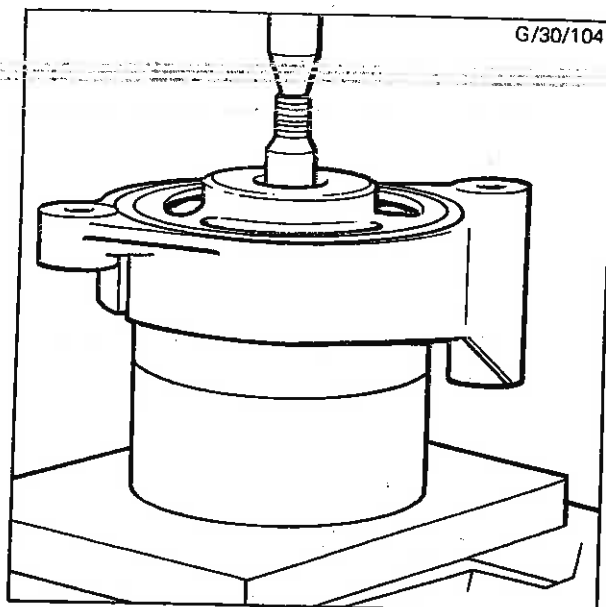

Fig. 65 - Removing Rotor from Bearing
11. As shown in Fig. 65, place the drive end shield (drive shaft upwards) over a suitable large diameter cylinder so that the rotor is encased within the cylinder and the cylinder seats squarely against the three end shield webs. A discarded 100 to 115 mm (4 to 4.5 in) dia. starter motor or dynamo yoke is admirable for this operation, but care must be exercised to ensure the end face of the yoke does not cut into the web radii. Support the rotor from underneath while pressing it out of the drive end shield with a standard fly-press.